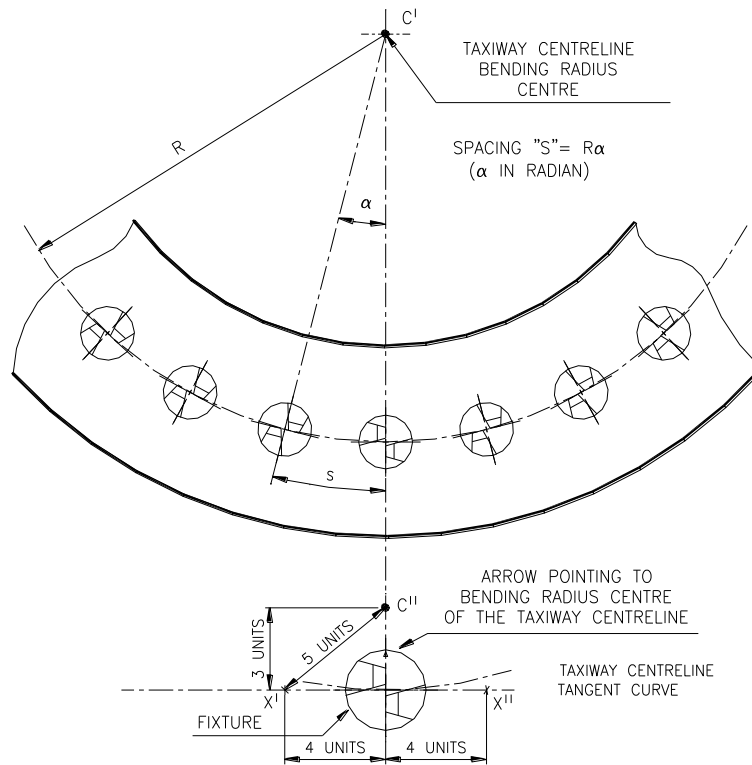

Figure 13 – Curved section light alignment
1. Using the scheme in Figure 13 determine the radius (R) of the curve and mark the taxiway radius centre (C').
2. Determine longitudinal spacing (S) between lights. Table 2 is taken from FAA AC 150/5340-30 normative, Table 3 from ICAO Annex 14 – Volume 1.
3. Locate and mark the location of each light (C) on the taxiway section centreline.
6. Mark two arcs of 1.2 m radius (or 4 units) from the centre of the light location (C) so as to intersect the first arc, and form a "X" in two places (X' - X'').